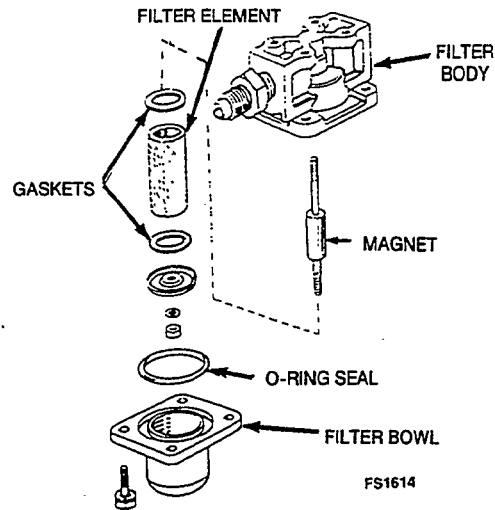

FIGURE 4-5. LIQUID LPG FUEL FILTER
The fuel filter (Figure 4-5) removes solid impurities from the LP gas, before they reach the regulator and carburetor. A magnet in the filter housing attracts iron and rust particles, and a filter element traps other particles. The fuel filter operates at fuel tank pressure, so it must be reassembled carefully after cleaning, to avoid leakage.
1. Remove the four capscrews and lock washers that hold the filter bowl to the filter body. See Figure 4-5.